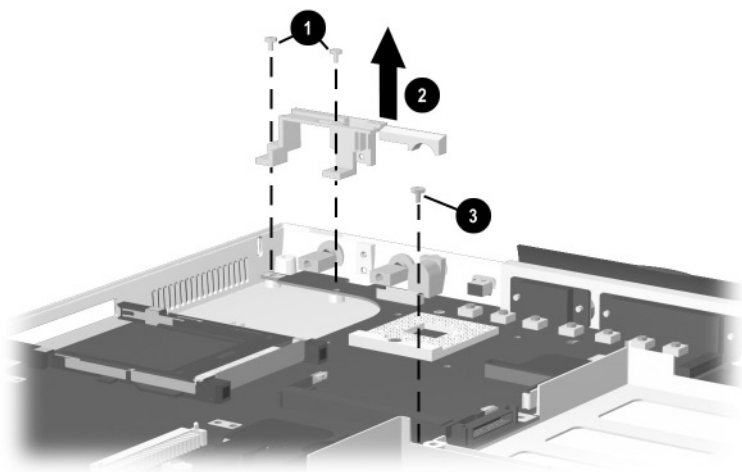

Figure 5-27. Removing the Left Display Support and System Board Screw
6. Remove the two black M2 \times 9 screws ❶ that secure the left display support to the base enclosure (Figure 5-27).
7. Remove the left display support ❷.